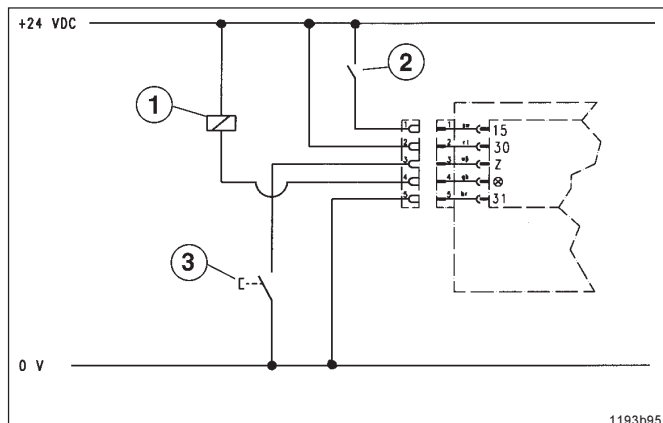

Fig. 7 - Connection diagram
- A relay connected externally (see Fig. 7) picks up and signals the readiness for service of the 203 lubrication pump.